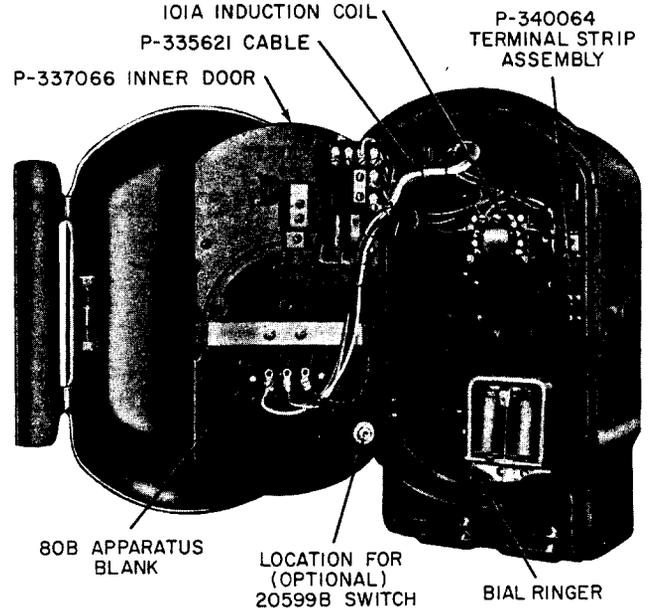
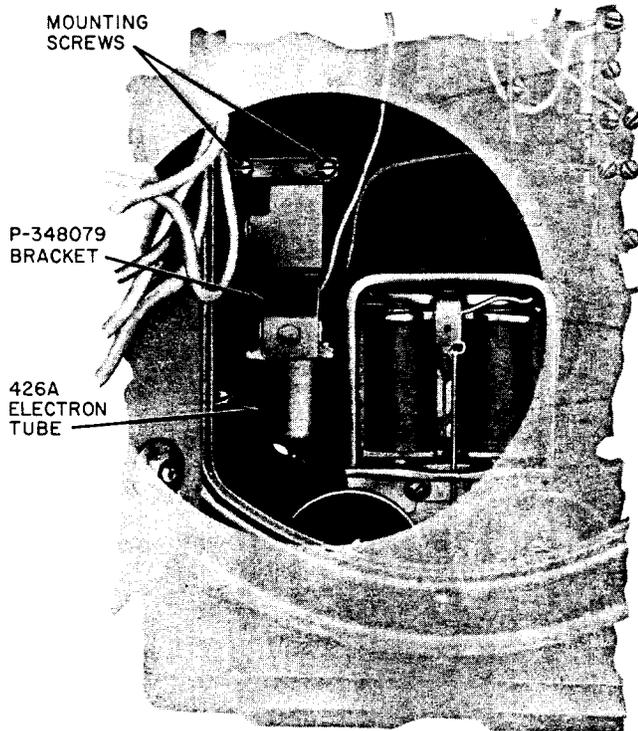

Fig. 3—325-Type Telephone Set (Manual) Inner Door Open
Fig. 7—325-Type Telephone Set, 426A Electron Tube Installed
- Inner door to seal off set components from customer (Fig. 3 and 4)
(1) Install **No. 20599B** (Hart and Hegeman) switch at opening provided in inner door (Fig. 3 and 4) when set ringer or external signals are to be disconnected.
(2) Refer to appropriate connection figure in Section 502-410-400 for connections to switch.
(3) A **426A electron tube** must be installed when connecting for 4-party semiselective service. Install tube in accordance with (Fig. 7) using a P-348079 bracket (ordered separately) and mounting screws furnished with telephone set.
(4) Connect tube leads, refer to appropriate connection figure in Section 502-410-400.
(5) To eliminate dialing clicks in radio receiving sets, install a **61L filter**. Fasten filter